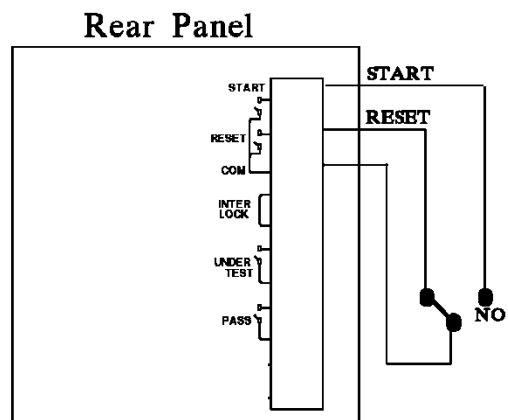

Figure 4-2
2. If it is connected as *Figure 4-2* shows, the system routine is in STOP state as the NC is